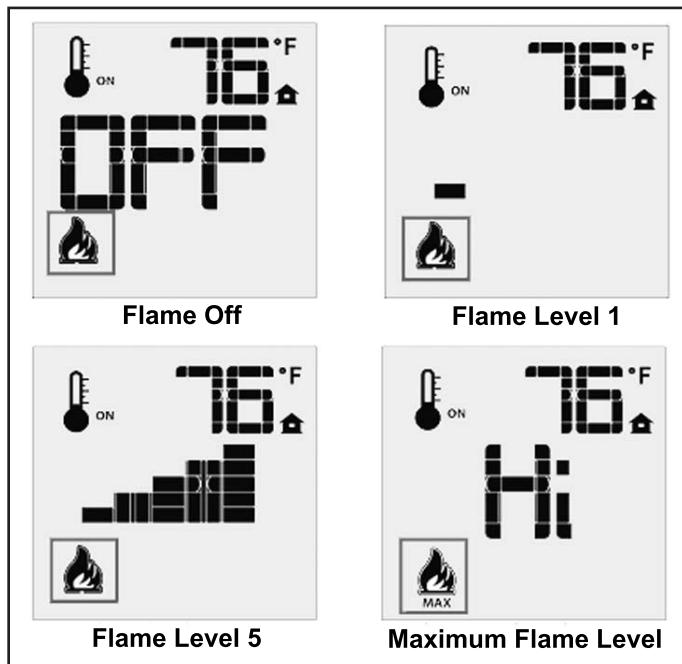

Figure 115: Remote Control's Flame Levels.
The Proflame GTMF has six (6) flame levels. With the system on, and the flame level at the maximum in the appliance, pressing the Down Arrow Key once will reduce the flame height by one step until the flame is turned off. The Up Arrow Key will increase the flame height each time it is pressed. If the Up Arrow Key is pressed while the system is on but the flame is off, the flame will come on in the high position (refer to Figure 115). A single "beep" will confirm reception of the command.